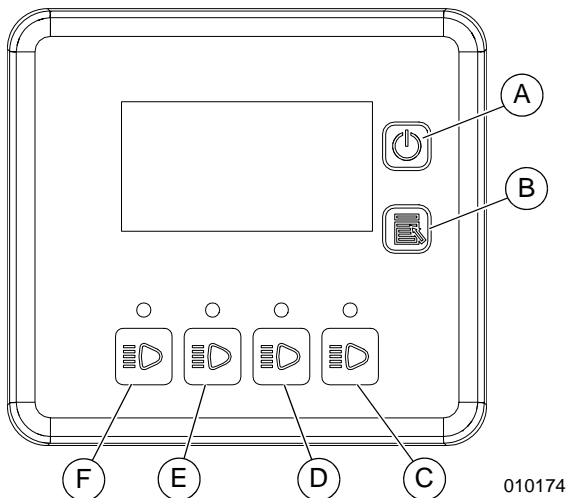

Figure 2-6. Controller Password Screen
1. See **Figure 2-6**. Press and hold Lamp 1 On/Off button (F) until the password screen appears.